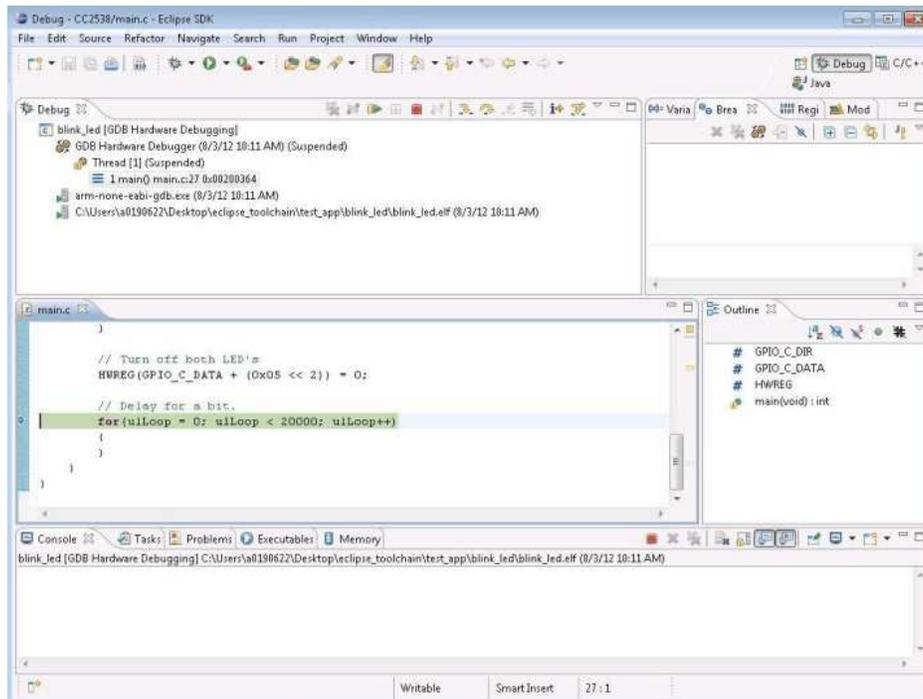

Figure 23. Running the Software Example From Debugger
1. Select Run → Debug Configurations, and the Debug Configurations panel will be opened (see Figure 23).